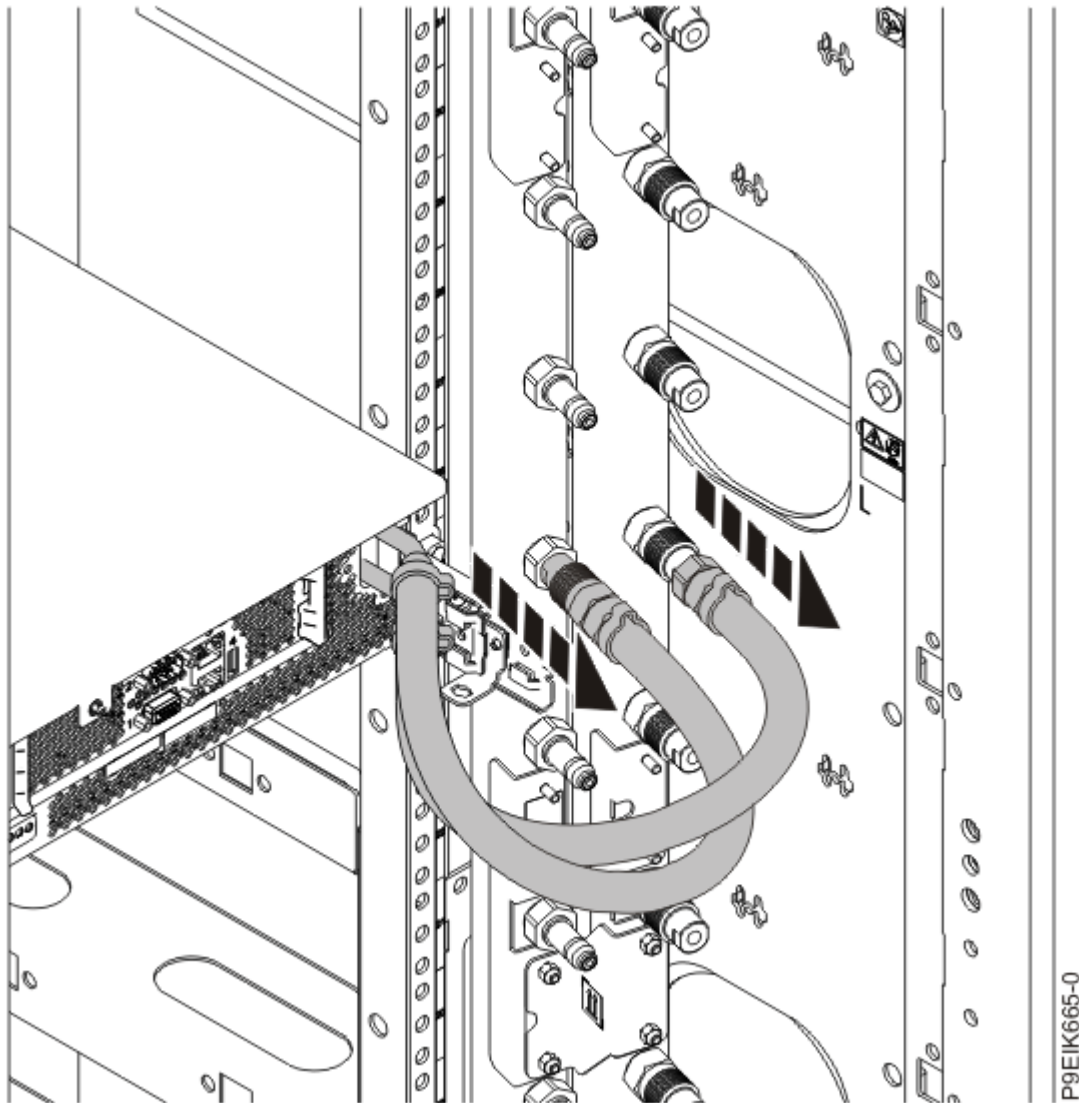

Figure 120. Disconnecting the water hoses
2. For a water-cooled system, label and disconnect the water hoses at the manifold. Pull the coupling toward you to disconnect the water hoses as shown in Figure 120 on page 151.